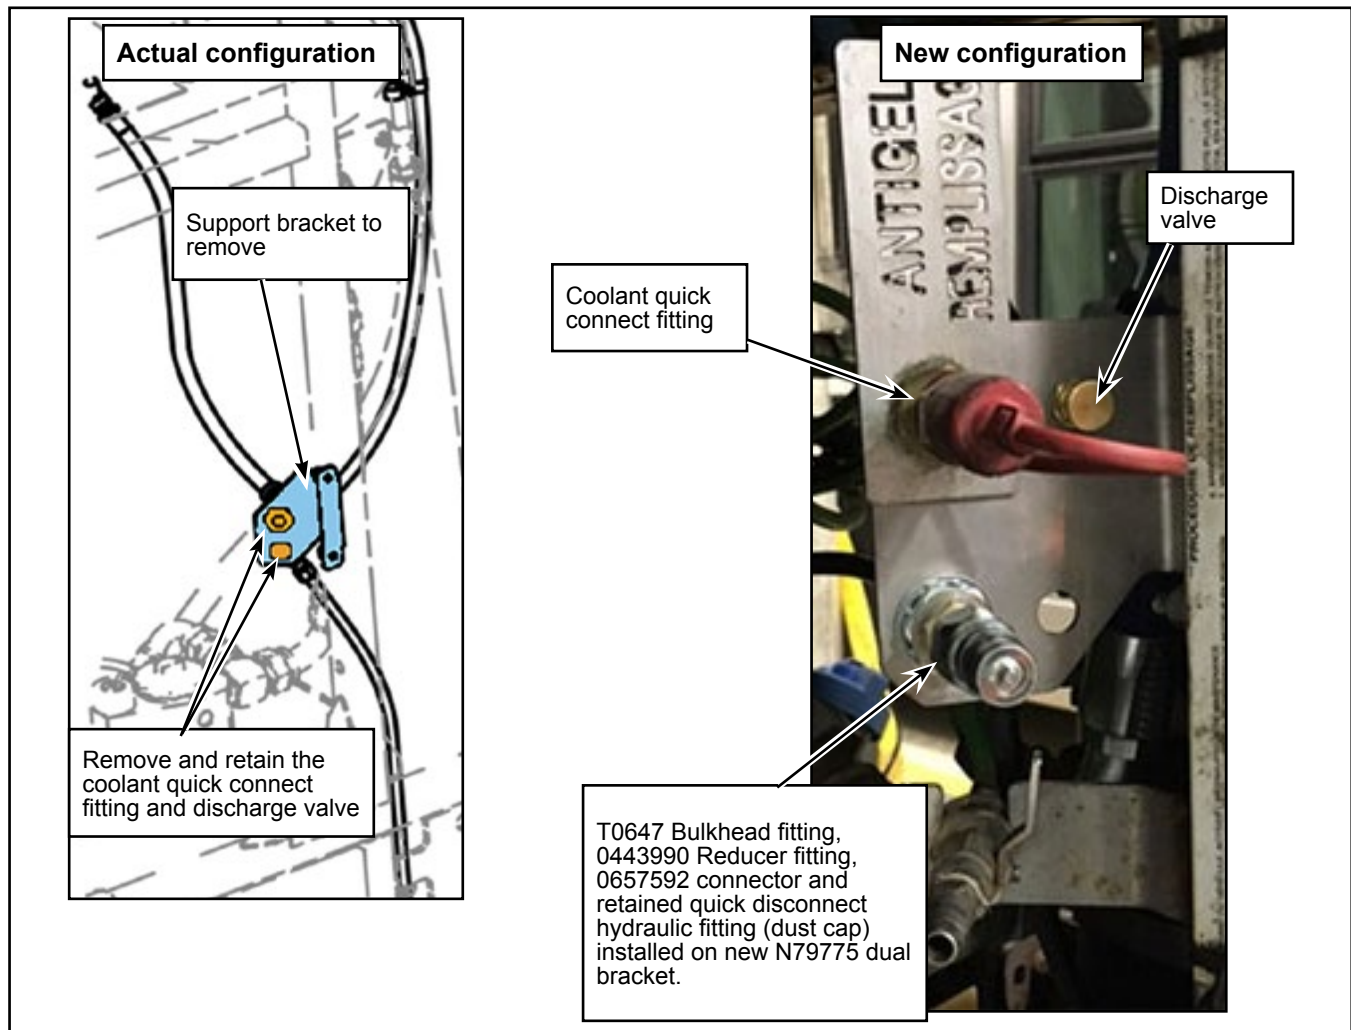

Figure 8 - Original Bracket to Remove and New N79775 Dual Bracket Installed
- 1.30. Apply a thin coat of thread sealant on the new 9409939 T-fitting and install the T-fitting on the filter head. See Figure 8.
- 1.40. Remove the push button (N30612) from the discharge valve and remove the discharge valve from the support bracket. Retain the parts. See Figure 8.
- 1.42. Remove the coolant quick connect fitting from support bracket. See Figure 8.
- 1.43. Remove the support bracket from the frame. Retain the hardware. See Figure 8.
- 1.44. Install the new N79775 dual bracket on the frame using the retained hardware. See Figure 8.
- 1.45. Affix the removed quick connect fitting and discharge valve in the top holes of the new plate N79775. See Figure 8.
- 1.47. Install the new T0647 bulkhead fitting in the bottom left hole of the new plate N79775. See Figure 8.
- 1.48. Install the new 0443990 reducer fitting on the T0647 bulkhead fitting. See Figure 8.
- 1.49. Install the retained quick disconnect fitting and dustcap on the 0443990 reducer fitting. See Figure 8.
- 1.50. Install a new 0657592 connector fitting on the back of the bulkhead fitting T0647. See Figure 8.